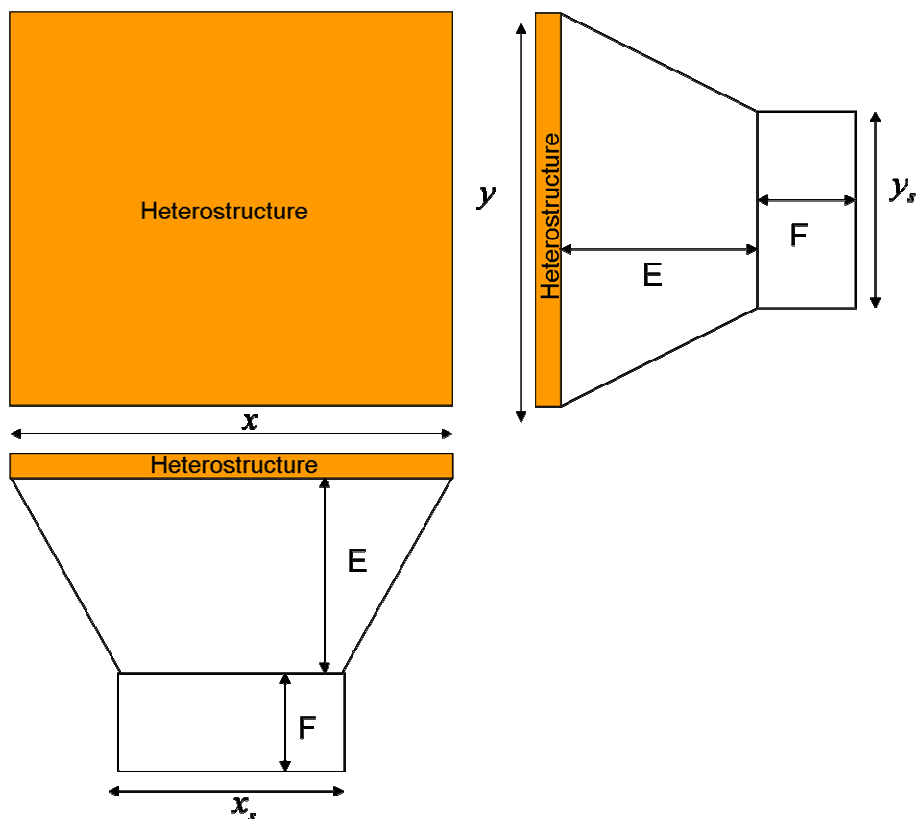

Fig. 5
- DX and DY – degrees of wafer narrowing/enlargement in X and Y directions, defined as the ratios of sizes of the back wafer surface to the heterostructure (n-semiconductor) surface, , see Fig. 5.  $DX = \frac{x_s}{x}$  and  $DY = \frac{y_s}{y}$  are dimensionless parameters, dice with  $DX = 1$  correspond to Fig. 4a,  $DX < 1$  – Fig. 4b,  $DX > 1$  – Fig. 4c.